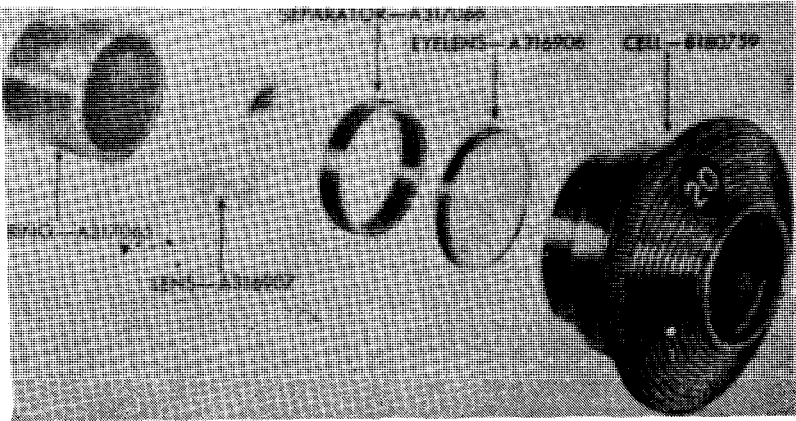

Figure 16-Observation Telescope M4-Eyepiece Assembly B180758 Disassembled
(1) Unscrew retaining ring A317065 (fig. 16).
(2) Hold eyelens cell slightly above a piece of soft cloth, or tissue, and tap lightly to remove field lens A317907 and separator A317066.
(3) Use same method to remove eyelens A316906, tapping more vigorously or pushing against eyelens if necessary. Care should be exercised that the bare fingers or table surface do not touch the lens. After removal, wrap the lens in a piece of lens tissue paper and store in a safe place.